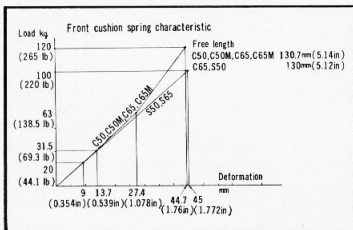

Figure 4-12. Characteristic of front cushion spring
- (1) Inspect for oil leaks from the damper as it will have an adverse effect on the dampening characteristics as well as producing undesirable noise.
- (2) Front cushion spring (Fig. 4-12)